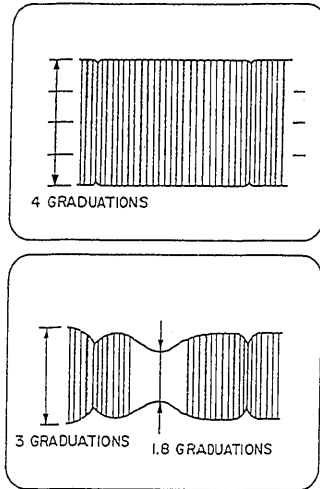

Fig. 3-15
- 6) Adjust voltage level control on the oscilloscope to set the maximum amplitude of the FM output to 4 graduations. (Fig. 3-15)